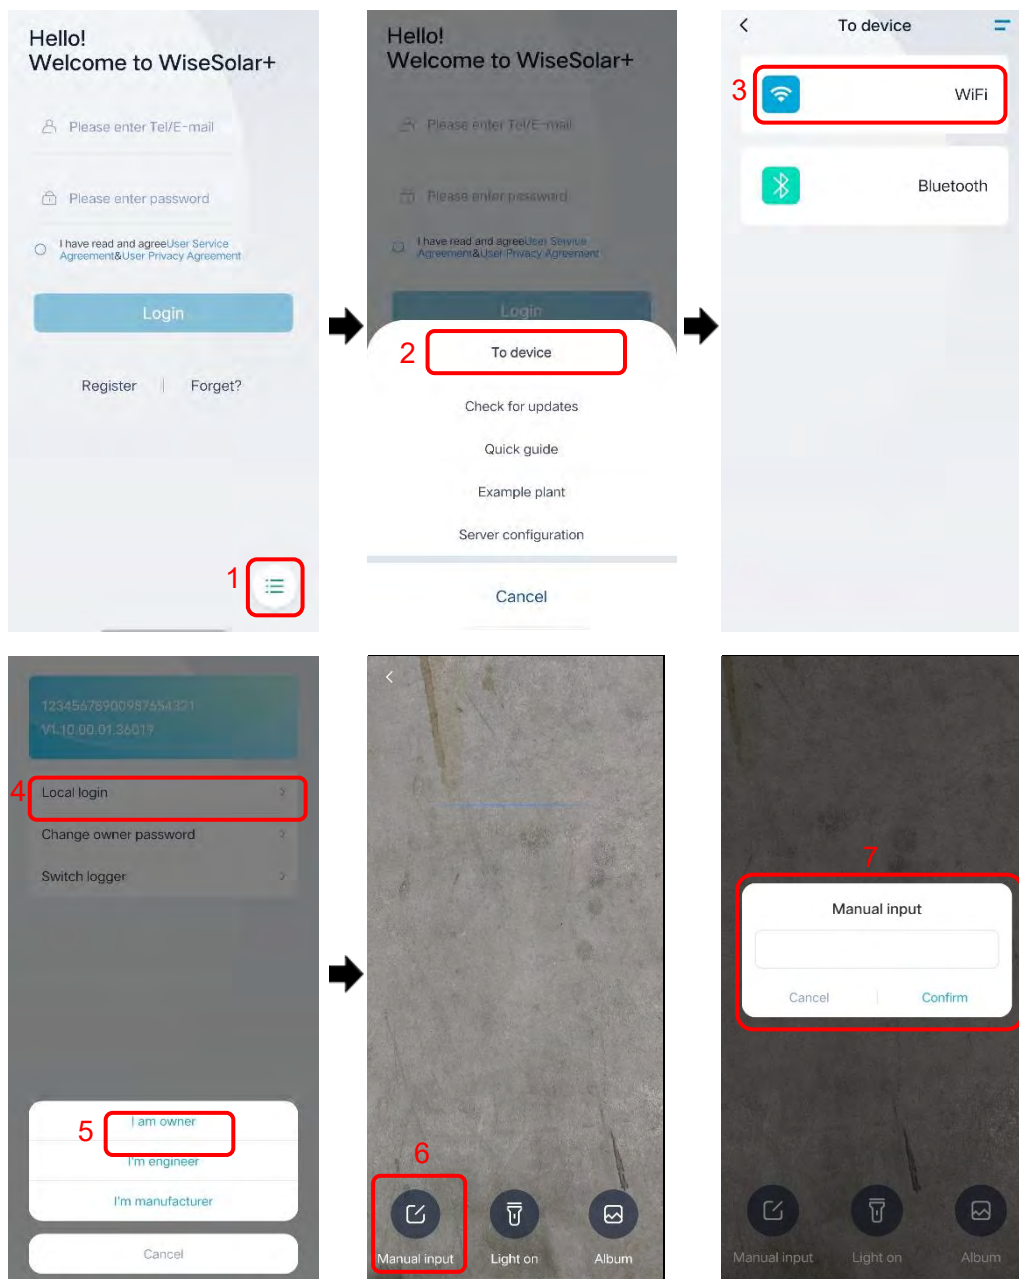

Figure5-3 Operation for connecting with the energy storage system
1. Open the WiseSolar+ APP and tap the icon  in the lower right corner (as "1" shown in Figure5-3).
2. Select **To device** (as "2" shown in Figure5-3).
3. Select **WIFI** (as "3" shown in Figure5-3) to enter the local login page.
4. Select **Local Login** (as "4" shown in Figure5-3), select **I am the owner** (as "5" shown in Figure5-3), the scanning page will pop up, tap **Manual Input** (as "6" shown in Figure5-3), fill in the S/N of connected logger (refer to NOTE in "Step 1"), and then tap **Confirm**. At this time, the energy storage system has established a communication connection with the mobile phone.